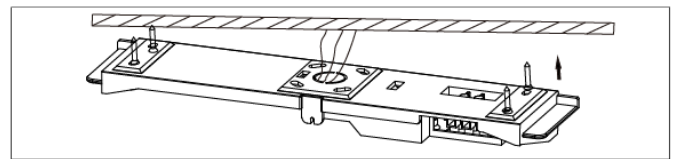

FIGURE 2
3. Remove the bracket to show the hole markings. Drill a 20mm hole for the cable entry. Make sure the mounting screw locations are against solid material to support the weight of the fitting. Use appropriate fasteners suitable to the construction material. Install the bracket (Fig.2)